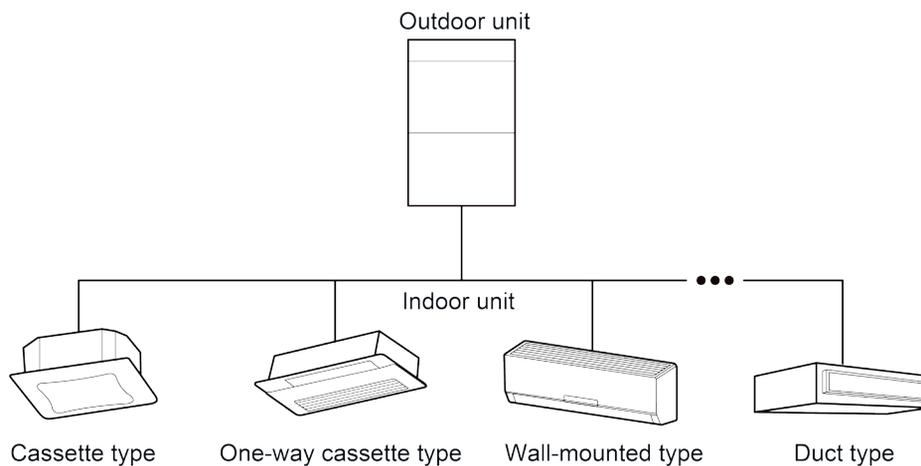

Fig.2.2.1
(3) Fig.2.2.1 is the combination view of the ODU of Modular DC Inverter Multi VRF System and the IDU of Multi VRF System. IDU can be cassette type, one-way cassette type, wall-mounted type, duct type, etc. When any one IDU receives operation signal, ODU will start to work according to the capacity; When all IDUs stop, ODU will also stop.